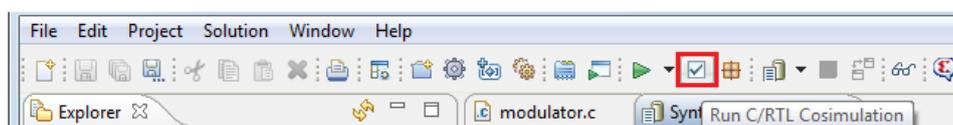
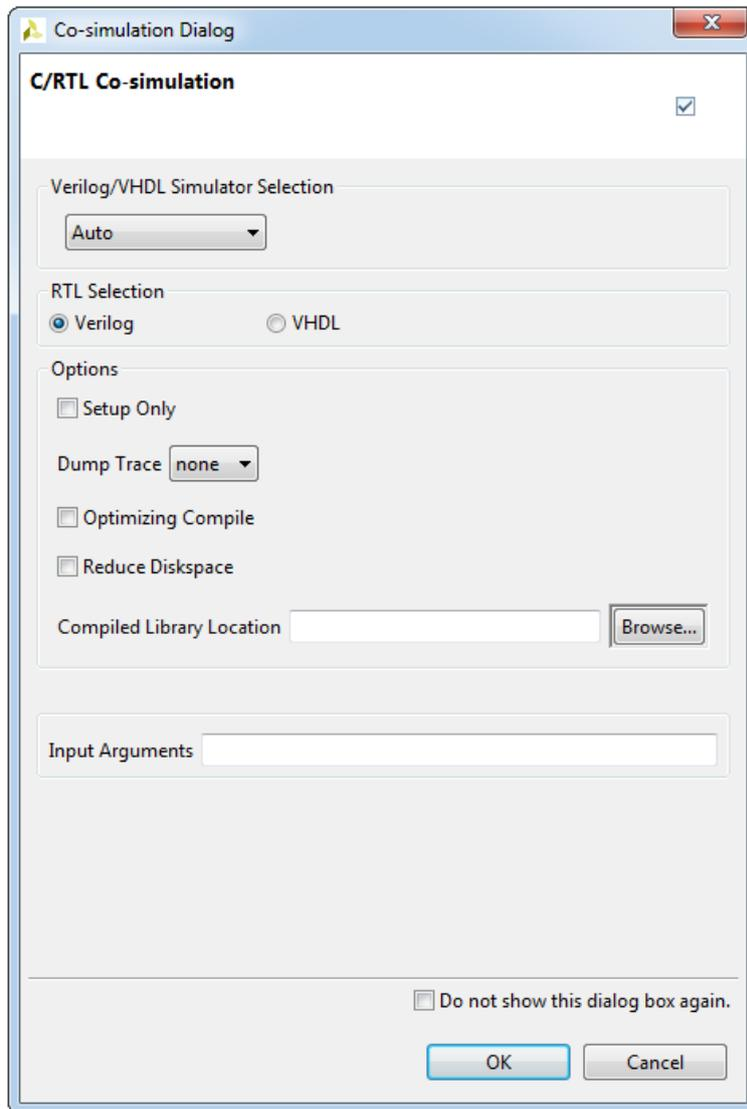

Figure 2.55: C/RTL CoSimulation toolbar button
Figure 2.56: C/RTL Co-simulation dialog box
Step 1. In the main Vivado HLS toolbar menu, click the **C/RTL Cosimulation** button, see Figure 2.55. This option opens the simulation wizard window shown on the Figure 2.56.